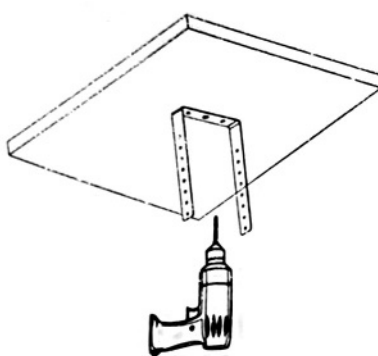

Figure 3-3
3. Drill holes on the ceiling; Figure 3-3